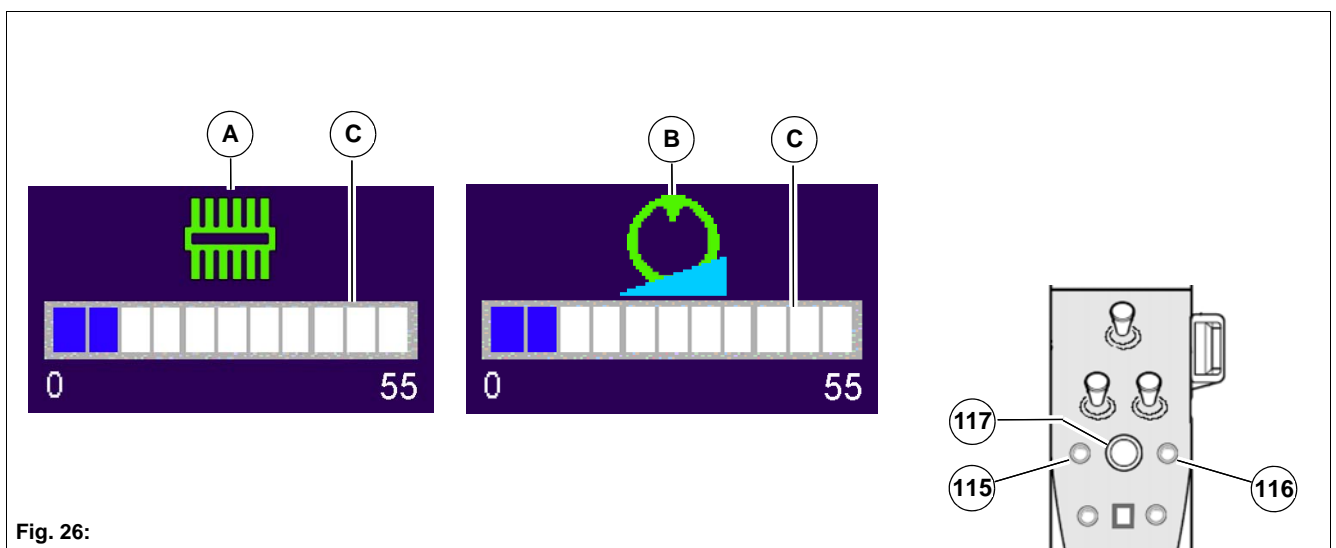

Fig. 26:
By connecting the attachment to the 23-pin socket it is differentiated between summer and winter service and the respective functions are automatically released in the control unit. The volume flows for the main consumers are set in the adjustment menu for winter service. The current function to be adjusted is presented as a symbol. If the symbol is white, the function is switched off. If the symbol is green, the function is switched on. The functions front-mounted equipment **Fig. 26-A** or attachment **Fig. 26-B** can be set.
- Briefly pressing the quick select buttons **Fig. 26-115** or **Fig. 26-116** switches on/off the main consumer **Fig. 26-A** or **B** and opens the adjustment menu of the respective main consumer.